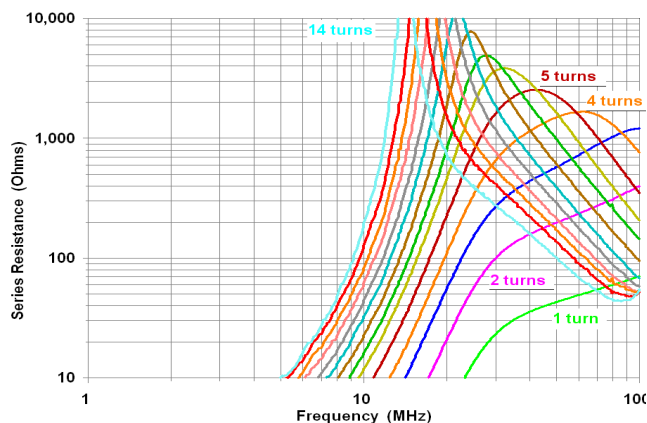

Fig 34 – R_s for chokes on 2.4" o.d. Fair-Rite #61
- ♦ **Inductive Ferrite Choke Balun** The line is wound around a toroidal ferrite core that has low loss at the frequency where the balun is used, so all (or nearly all) of the impedance is inductive. The line may be coax or it may be bifilar (parallel wires). Reisert's toroidal baluns are wound on a material like #61 that has low losses at HF (Fig 12, Fig 34). [Reisert also introduced the concept of a crossover winding style, whereby half of the choke was wound in one direction around the toroid, then crossed 180 degrees to the other side of the toroid and wound in the opposing direction. Sevick noted that he was unable to measure any effect of this technique. My measurements confirm Sevick's results.]